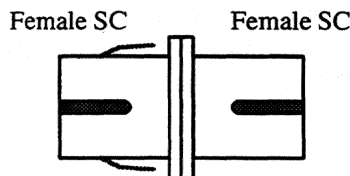
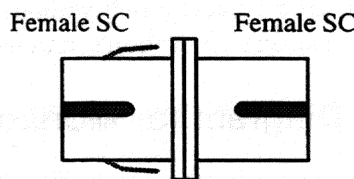

Figure 6-12 Single-Mode (or Multi-Mode) Coupler (all Metal), Female SC to Female SC.
Figure 6-19 Multi-Mode (or Single-Mode) Coupler (all Metal), Female SC to Female SC.
7. *Single-Mode (or Multi-Mode) SC to SC Coupler.* The single-mode (or multi-mode) SC to SC coupler is shown in Figure 6-12; note this is the same coupler as described and shown in Figure 6-19. It is all metal and has a female SC connector at either end (rectangular in shape) so as to join two male-ended single-mode (or multi-mode) cables. (Referred to as “O” in cable diagrams beginning with Figure 6-21.)
6. *Multi-Mode (or Single-Mode) SC to SC Coupler.* The multi-mode (or single-mode) SC to SC coupler is shown in Figure 6-19; note this is the same coupler as previously described and shown in Figure 6-12. It is all metal and has a female SC connector at either end so as to join two male-ended multi-mode (or single-mode) cables. (Referred to as "O" in cable diagrams beginning with Figure 6-21.)